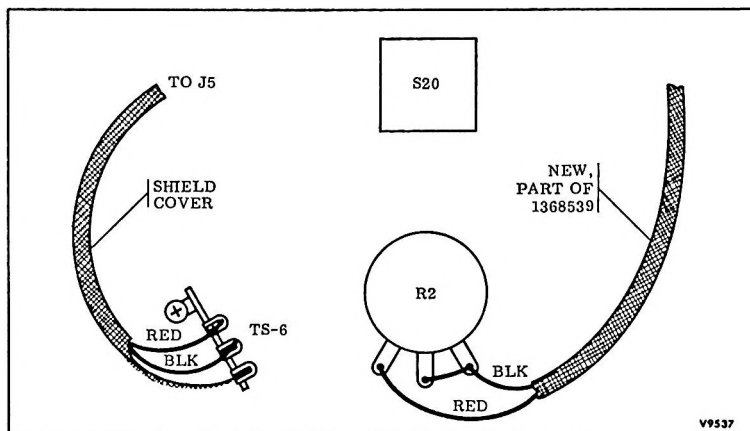

Figure 2-10. Wire Modification, Tracking Potentiometer R2
1. Remove the two-conductor shielded cable from tracking potentiometer R2 (Figure 2-10). Prepare the two wires and shield for re-soldering and route the cable to the new terminal board TS6. Connect and solder the red lead to TS6-1, the black lead to TS6-2, and the shield to TS6-3.
m. Connect and solder the 2-conductor shielded cable from switch S20 to tracking potentiometer R2 as shown in Figure 2-10.